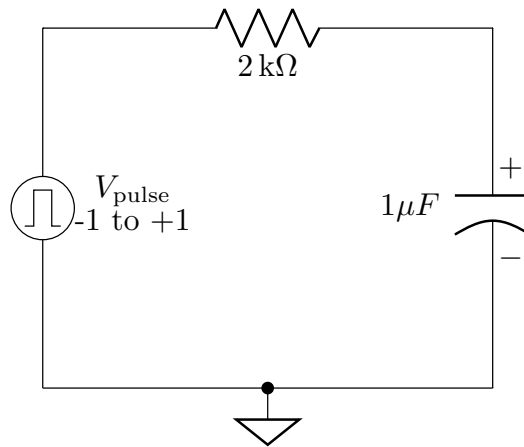

Figure 9: First-order RC circuit.
Consider the circuit shown in Fig. 9. Find the equation for the voltage across the capacitor for the charging and discharging phases.
Calculate the time constant of the RC circuit in Fig. 9. Using equation (1), find the equation for the voltage across the capacitor during the charging and discharging phase. Hint: For the charging phase,  $v_c(0+) = -1\text{V}$  and  $v_c(\infty) = 1\text{V}$ . Similarly, you need to determine the  $v_c(0+)$  and  $v_c(\infty)$  for the discharging phase, before you substitute in equation (1). **[1 marks]**